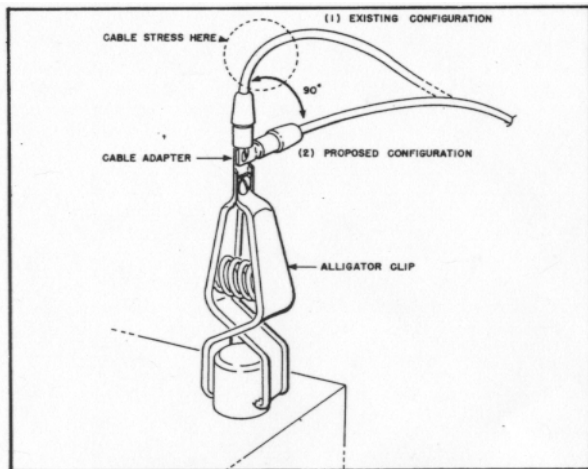

Figure 9. Battery clip and cable.
Does the battery cable's rubber molding on your unit's Gyro-Azimuth Survey Instrument-C2A ABLE split when subjected to acute bending near the battery clip (fig 9; (1)).
Repositioning the cable adapter adjoining the alligator clip can prevent the split in the rubber molding. Turning the cable adapter 90° eliminates the loop above the battery and any stresses occurring at or near the clip (fig 9; (2)).